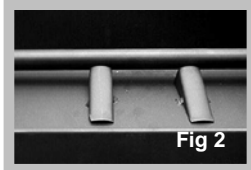

Fig 2
- ◆ Find the point where the flame passes through the knot hole in log # 1 (Fig. 2).
- ◆ Keep Ember Enhancer tips (Fig. 2) clear of sand (for nat. gas) or Vermiculite (for LP gas).